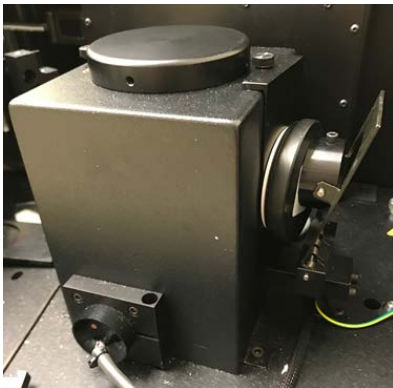

Figure 3: Securing the White Cap against the Angled Sample Mount.
2. Mount the Spectrolon coated White Cap behind the Angled Sample Mount and secure it using the spring clamp with the angled wedge pressing against the back of the White Cap as shown in Figure 3.
2. Mount the Spectrolon coated White Cap behind the Integrating Sphere and secure it using the spring clamp as shown in Figure 3.
2. Mount the Spectrolon coated White Cap behind the Integrating Sphere and secure it using the spring clamp with the flat face pressing against the back of the White Cap as shown in Figure 3.